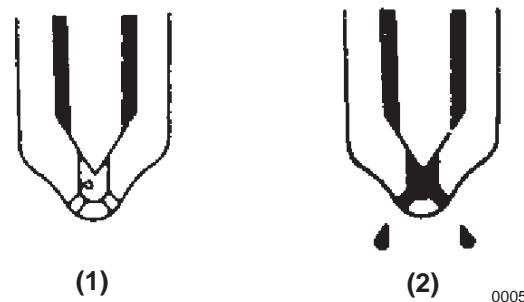

Figure 6-15
Increase the pressure to near the specified injection pressure of 10 to 20 kgf/cm², 0.98 to 1.96 MPa (142 to 284 psi). Check for oil leakage from the injection hole and around the retaining nut. There should be no leakage (**Figure 6-15, (1)**). If leakage occurs from the nozzle (**Figure 6-15, (2)**), replace, clean or repair the nozzle.